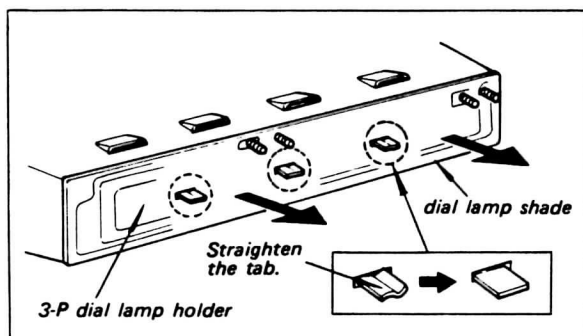

Fig. 2-8. Dial lamp replacement
2. Straighten the tabs of the dial lamp shade to permit removal of 3-P dial lamp holder as shown in Fig. 2-8.